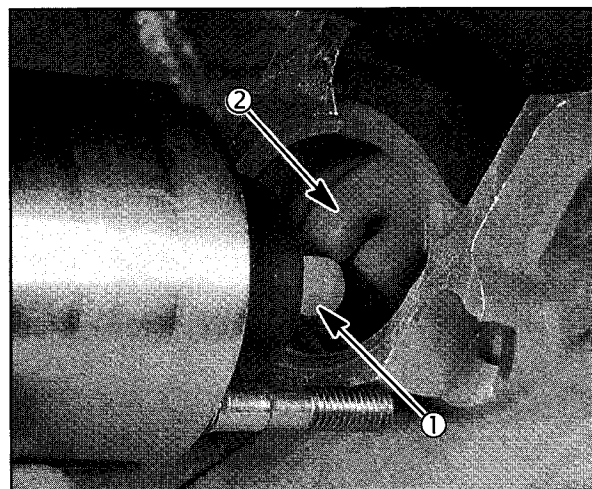

Fig. 30
4. Engage flats on plunger (1) with fork in drive lever (2) and assemble solenoid to starter, Fig. 30. Torque nuts to **70 in. lbs. (8 Nm)**.